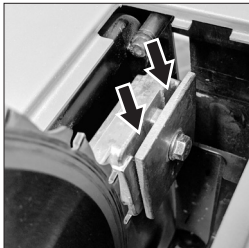

Fig. 18
- Slide the Riving Knife between the fixing plate and mounting block (Fig. 18). Ensure that the mounting blocks projecting lugs engage with the slot in the Riving Knife.